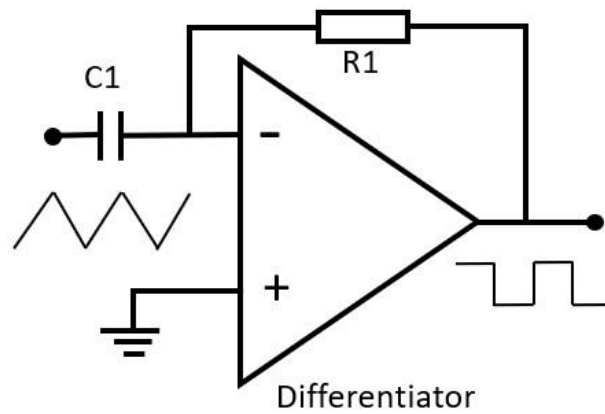

Figure 7: Integrator.
6. The Integrator Op Amp performs integration with respect to time. The output is proportional to the input voltage integrated over time governed by  $R_1$  and  $C_1$  (Figure 7).